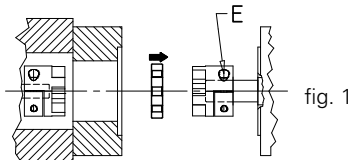

fig. 1
A half-coupling hub is to be fitted onto the servo motor keyless shaft end (if present, remove it; see fig. 1). In case of high starts/hour and heavy loads, it is necessary to request the non-standard design **«Coupling with keyway»**.
**Insert the half-coupling onto the servo motor shaft, as shown in fig. 1, abutting with elastomer ring seat.**